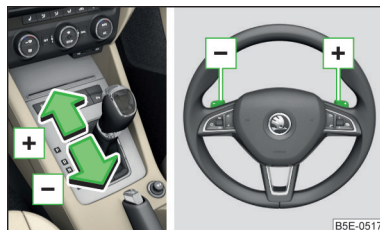

Fig. 235
- To **change gear**, pull one of the rocker switches   briefly towards the steering wheel » Fig. 235.
- To **shift up**, tap the selector lever forwards  or pull the rocker switch  briefly towards the steering wheel » Fig. 235.
- To **shift down**, tap the selector lever backwards  or pull the rocker switch  briefly towards the steering wheel » Fig. 235.